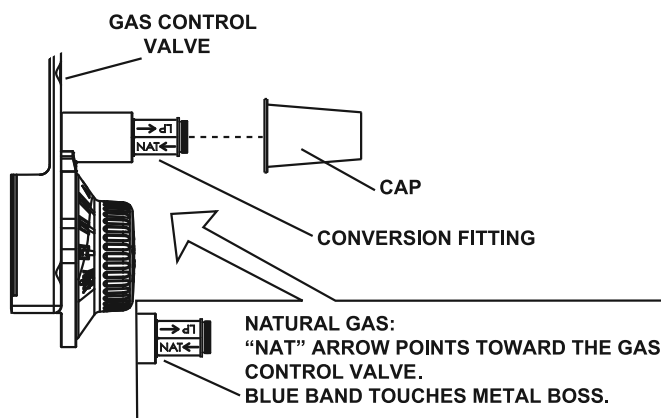

FIGURE 36A.
- In step 8C, verify that the "NAT" arrow on the fitting is pointing toward the gas control valve/thermostat. The blue band on the fitting should touch the metal boss. Replace the cap. See Figure 36A.